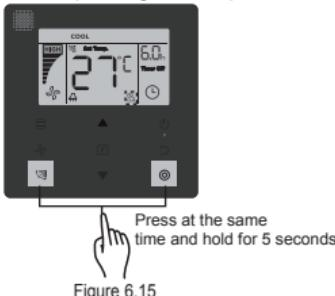

Figure 6.15
- 2) Turn on "Follow Me": When the "Follow Me" function is off, Press  (Swing) and  (Confirm) buttons at the same time, and hold for 5 seconds to start the "Follow Me" function again, and display its icon "" (see Figure 6.15).